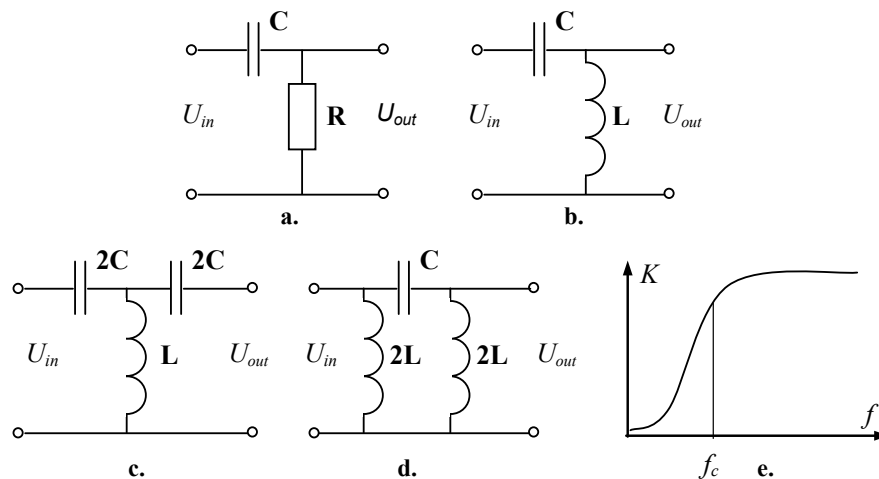

Fig. 2.28
**Passive high-pass filters.** Fig. 2.28 illustrates *high-pass filters* and their frequency response. The high-pass filter is open for high frequencies and attenuates the low-frequency signals. High frequencies pass through the capacitors but the low-frequency signals are attenuated by the capacitors. On the other hand, the low-frequency signals pass through the inductors, whereas the high-frequency signals cannot pass over the coils. The cutoff frequency of the high-pass filters may be calculated by the same formulas as for the low-pass filters.